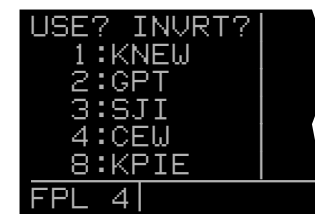

Figure 4-10
2. Rotate the left inner knob to select the desired flight plan (figure 4-10).